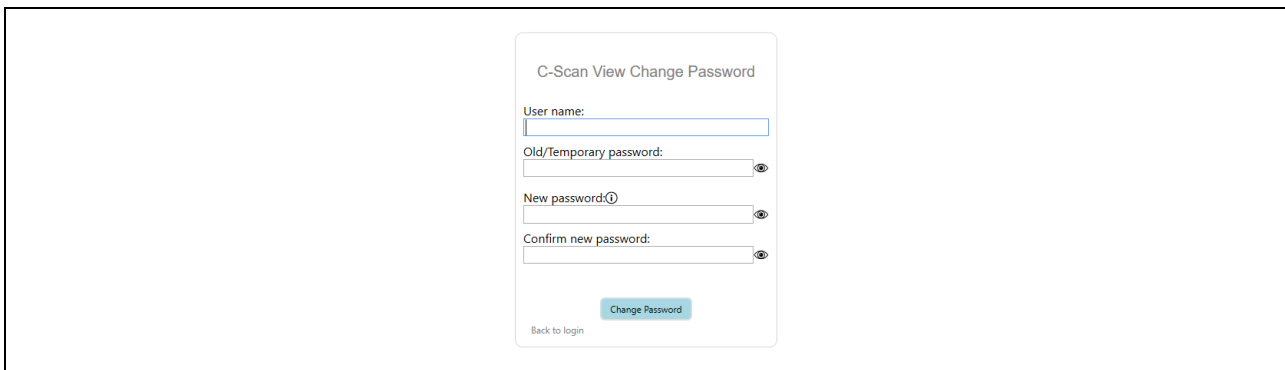

Figure 26: Change Password
The "Change Password" dialog opens, see Figure 26.
5. The “Change Password” dialog opens, see Figure 26.
7. Enter temporary password and a new password of your choice according to the instructions in “Change Password” dialog (Figure 26).